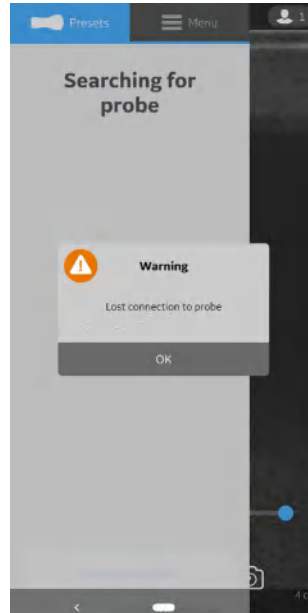

Figure 3-22. Vscan Air CL Connection Lost
**NOTE:** *When the Wi-Fi connection to the paired probe is unexpectedly lost, the Vscan Air App shows warning message as 'Lost connection to Probe' (see the Figure 3-22 below ).*